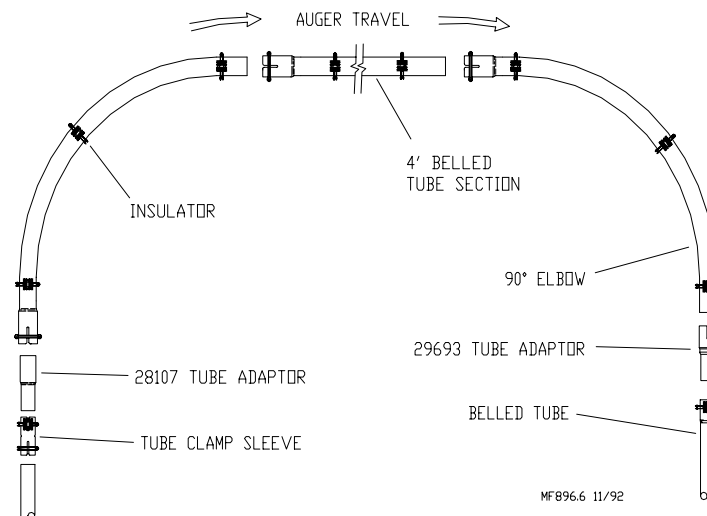

Figure 24. (Side View)
10. Assemble the elbows and related components as shown in **Figure 24**. Temporarily support the elbows until the suspension system is installed.